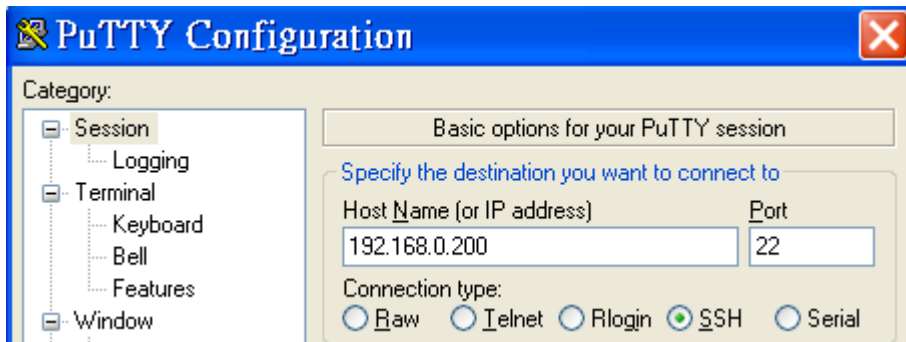

Fig.3-33
- (1) Putty – the free PuTTY is an SSH and telnet client. Download PuTTY tool: <http://www.putty.org/>
- (2) Open a “Putty Prompt” and type the IP Address of the LP-52xx, and the connection type is set to SSH. When prompted, type the User\_Name and Password to establish a connection to the LP-52xx. If the “#” prompt character is displayed, it signifies that a connection to the telnet server on the LP-52xx has been successfully established (refer to Fig. 3-33).